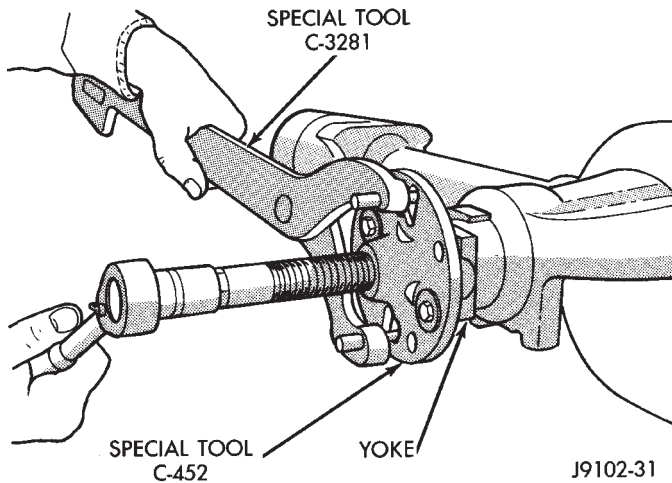

Fig. 2 Pinion Yoke Removal
(6) Remove the pinion yoke nut and washer. Use Remover C-452 and Wrench C-3281 to remove the pinion yoke (Fig. 2).
(7) Mark the positions of the yoke and pinion gear for installation alignment reference.